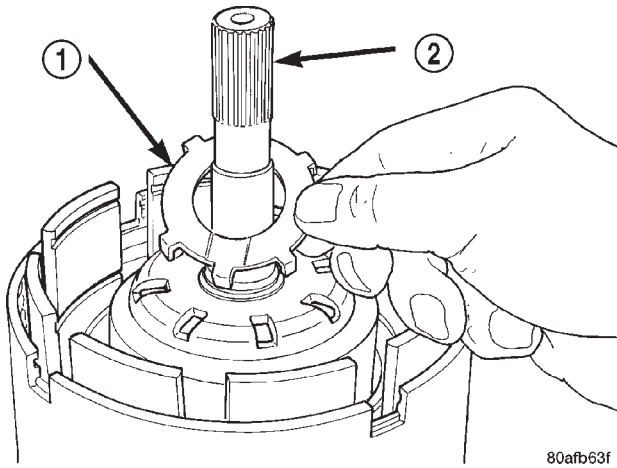

Fig. 287 Install No. 3 Thrust Washer
(39) Install the #3 thrust washer to the underdrive shaft assembly. Be sure five tabs are seated properly (Fig. 287).